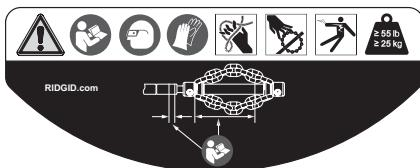

Figure 3 – Warning Label
- Presence and readability of the warning label (see *Figure 3*).